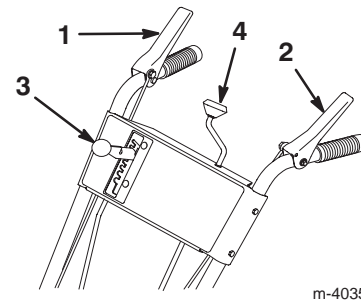

Figure 19
- **Auger/Impeller Drive Control Lever** (Fig. 19)—To engage both the auger and impeller, press the lever against the right handgrip. To disengage, release the lever.
- **Traction Control Lever** (Fig. 19)—To engage the traction (wheel drive), press the lever against the left handgrip. To stop the traction, release the lever.
- **Speed Selector** (Fig. 19)—This control has seven positions: five forward and two reverse gears. To change speeds, move the speed selector to the desired position. The lever locks in a notch at each speed selection. The speed selector may shift with difficulty in heavy load conditions.
- **Discharge Chute Control** (Fig. 19)—Rotate the discharge chute control clockwise to move the discharge chute to the left; counterclockwise to move the chute to the right.
3. Release the auger/impeller drive control lever and the traction control lever (Fig. 19).
10. Move the speed selector (Fig. 19) to first gear, squeeze the traction control lever to the handgrip, and then release the traction control lever. If the snowthrower moves forward before engaging the traction drive control lever or after releasing the lever, see Adjusting the Traction Drive Belt on page 22.